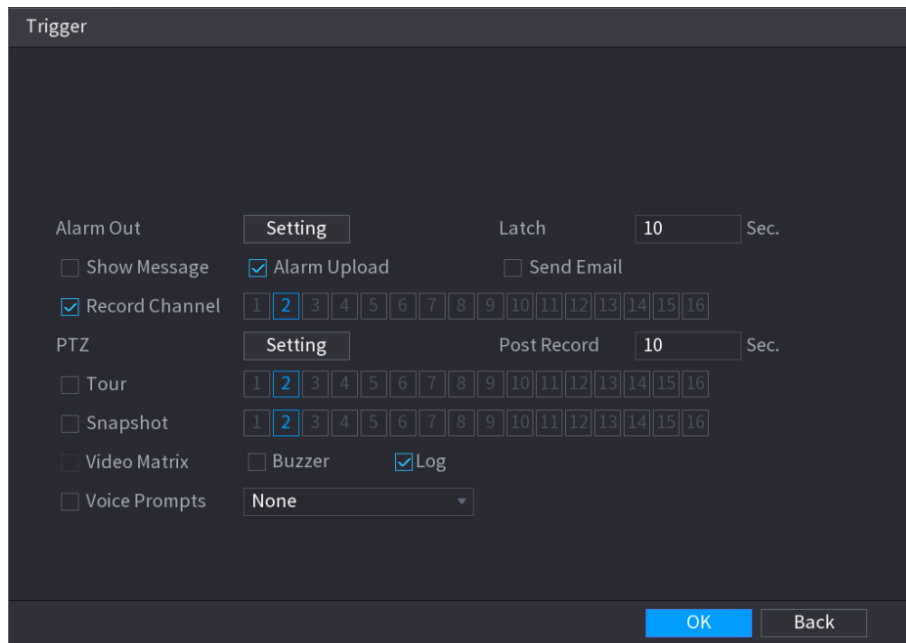

Figure 5-152
- Click  to set the alarm linkage. See Figure 5-152. For details, see Table 5-44. After setting is completed, click **OK**.